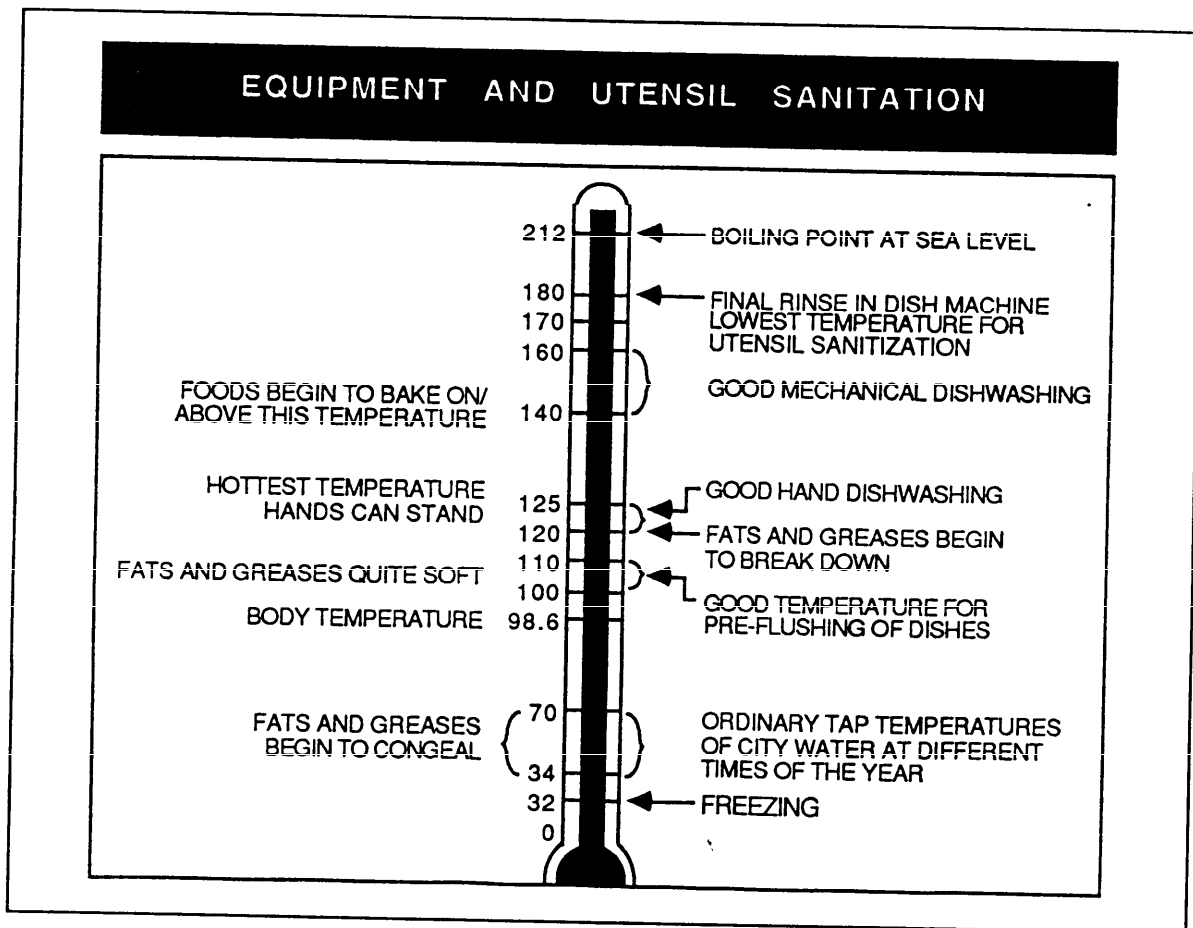

Figure 1
2.1 Objective and Implementation. This section reviews general health, safety, and environmental issues as they relate to the operation and maintenance of food service equipment. Food service equipment must meet very rigid performance standards and maintenance requirements to ensure food quality. Many of these standards deal with effective bacteria treatment and prevention of food contamination. Maintenance personnel need to be well acquainted with details from the Manual of Naval Preventive Medicine to promote a healthy atmosphere. The single most important consideration in the maintenance of food service equipment is cleaning. Cleaning ensures proper sanitation and prevents a decrease in equipment performance. See Figure 1 below and Appendix A for further guidance and references.
- b) Verify dishwater temperature monthly to assure dishwasher thermometer accuracy. It is essential that proper water temperatures are used to maintain sanitary standards. Maintain a minimum final rinse temperature of 180 degrees F (see Figure 1).